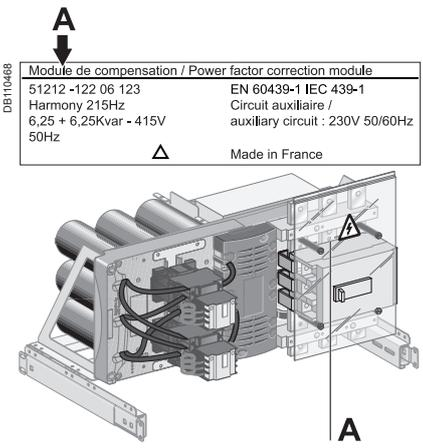

Fig. 1: power factor correction module rating plate.
- check the electrical characteristics indicated on the rating plate (A Fig. 1) correspond to those on the order form